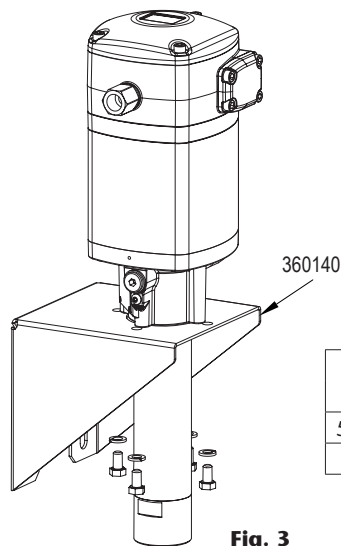

Fig. 3
- Wall mounting with screws. Insert the pump through the wall bracket 360140 and fix it with 4xM8 screws (fig. 3).